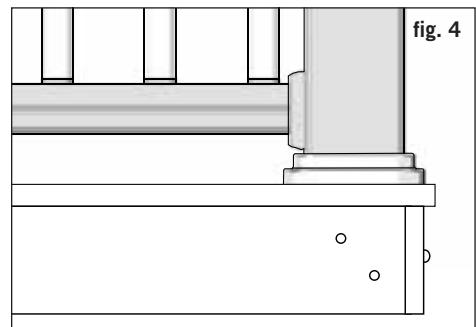

fig. 4
Step 3: Position, plumb with a level, and clamp the railing post on the interior face of the joist. Plumb again. The 4x4 railing post should be bolted to the inside of the joist using two 1/2" x 6" galvanized carriage bolts. Corner posts use a third carriage bolt inserted through the adjacent joist (fig. 4).